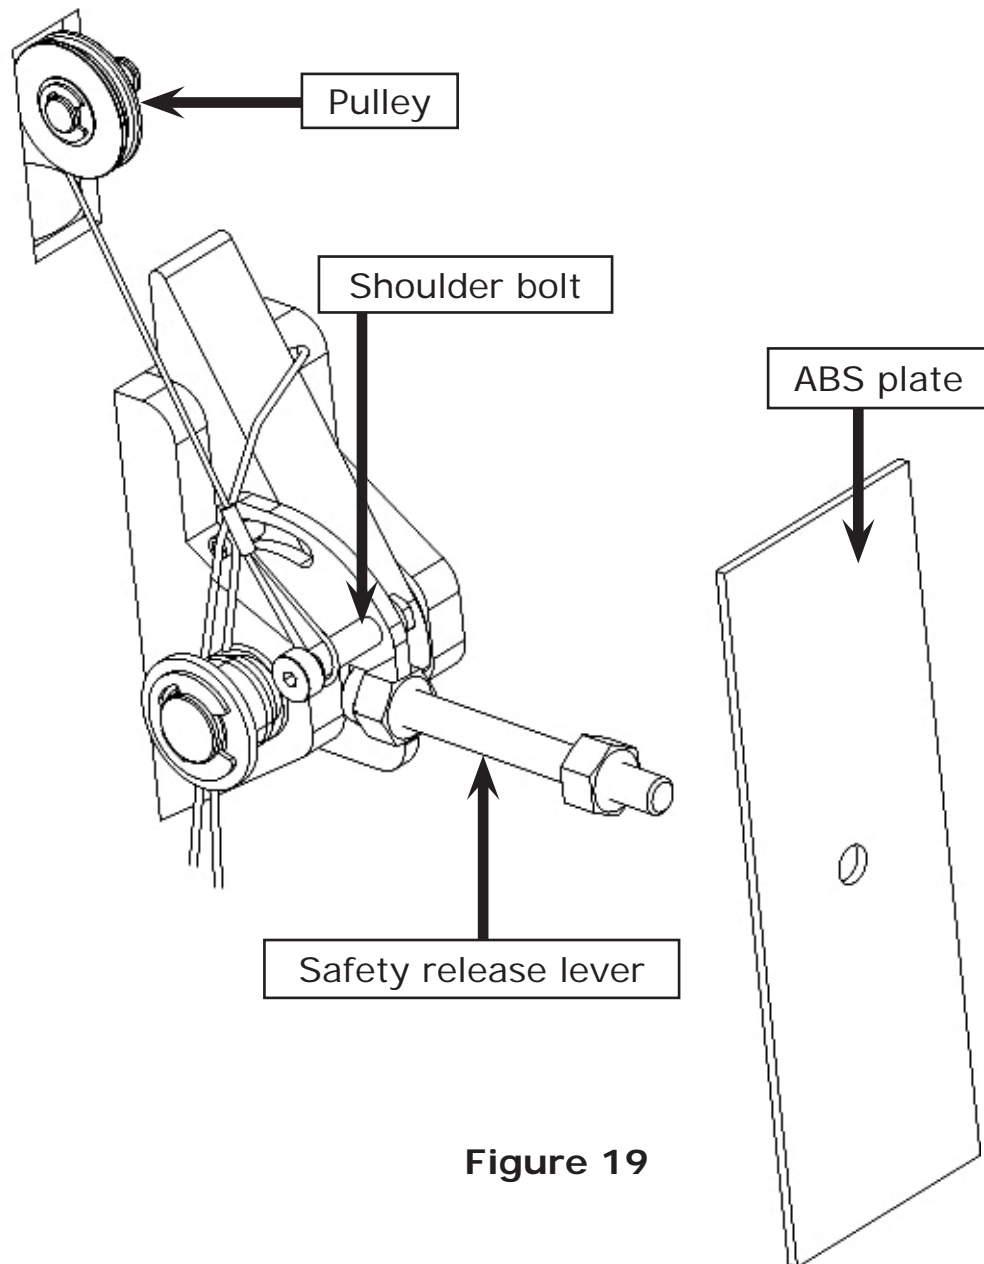

Figure 19
- Install the cable pulley and the retaining rings in upper slot of the ***power-side column*** (ref. fig. 19);
- Slip the loop end of the cable over the shoulder bolt (ref. fig. 19);
- Feed another end of the cable through the upper slot and make sure cable is routed under the bottom of the pulley and inside the column (ref. fig. 19);
- Install the safety release lever and ABS plate using the nuts M22 (ref. fig. 19). Install the ABS cover using the cross recess head screw M8X10 and the washers D.10 and then install the lever ball on the lever (ref. fig. 23).